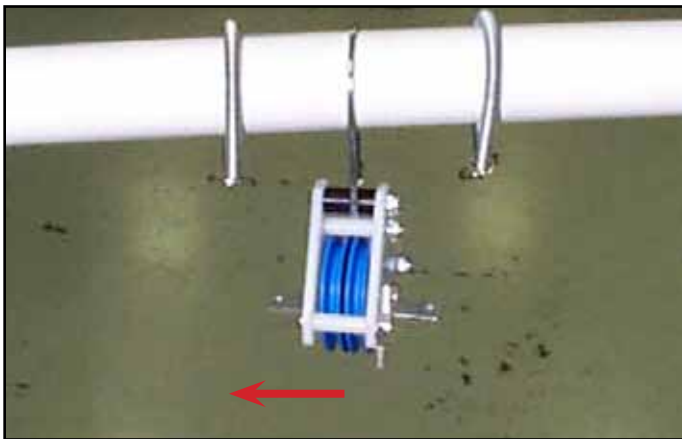

Figure 10
6. Form the top of the support: Place an elbow (Part 108) on one end. Slide a 12" pipe into the elbow coupling and slide the following onto the 12" pipe: spring assembly (Part 118), top pulley block (Part 117) (hang it from attached hook), second spring assembly. Finish by adding the second elbow and securing it to the other 38" pipe (Figure 10).
Note: The top pulley block MUST be oriented so that the line tie-off lug (see arrow in Figure 10) is facing toward the INSIDE of the tank. Otherwise, the pulley cannot be threaded properly.